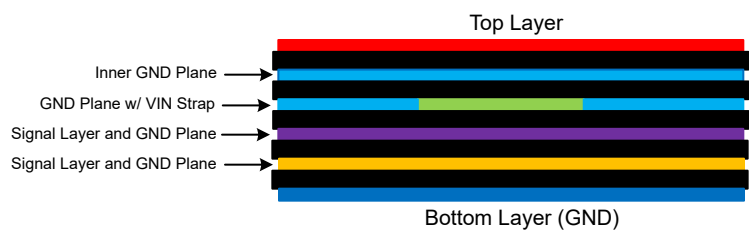

Figure 8-95. PCB Layout Example
- *Use generous ground vias:* Multiple ground vias must be used (stitching). This action provides both a low impedance ground connection and low impedance heat path for the regulator. This is especially important around the input capacitor grounds. Thermal ground vias are also required under the DAP of the regulator, extending to both side of the PCB. Use the LM654B0EVM as an example. (Figure 8-95 is for illustrative purposes as regards the number and placement of ground vias)